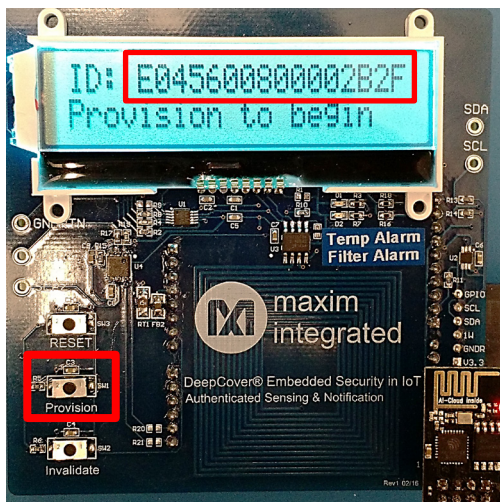

Figure 13. Display for Controller ID.
4. After a successful network connection is established, the display shows the unique ID for the Controller (**Figure 13**). This is used for session tracking on the Web Server. Write down this session ID for later, and then press the **Provision** button to continue.